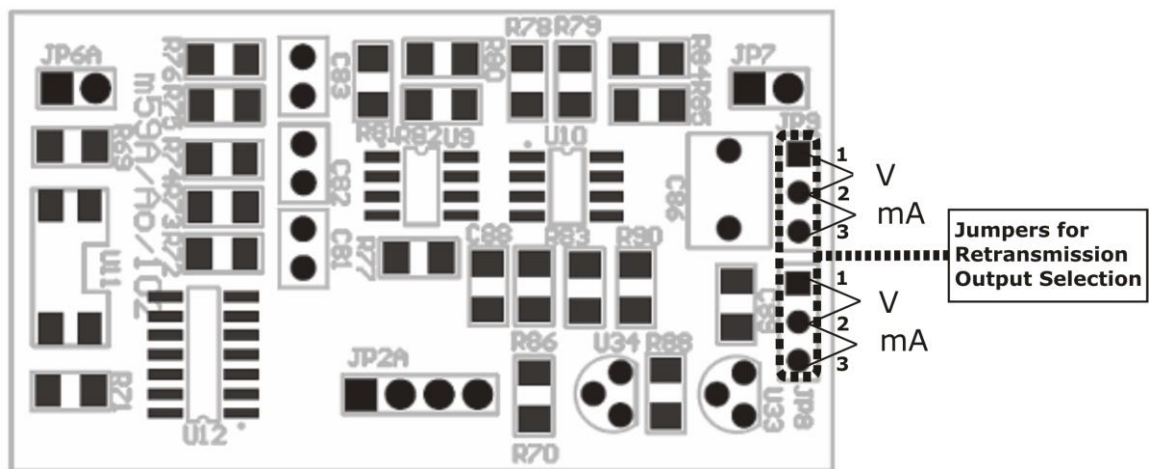

Fig 7. Jumper Location for Retransmission output
- For V retransmission output short the 1 and 2 pins of jumpers JP8 and JP9 of AO card as shown in figure 7.
- For mA retransmission output short the 2 and 3 pins of jumpers JP8 and JP9 of AO card as shown in figure 7.